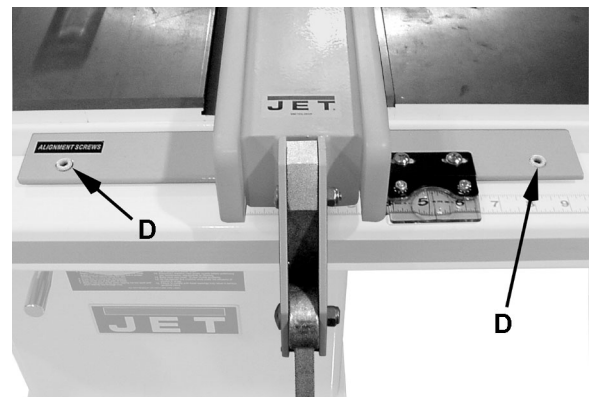

Figure 10
46. Raise or lower two nylon adjustment screws (D, Figure 10) *the same number of turns* until the space between bottom of fence and table is the same. Care must be taken to raise or lower fence on each side equally or the fence may not be 90° to the table after the height adjustment is performed.